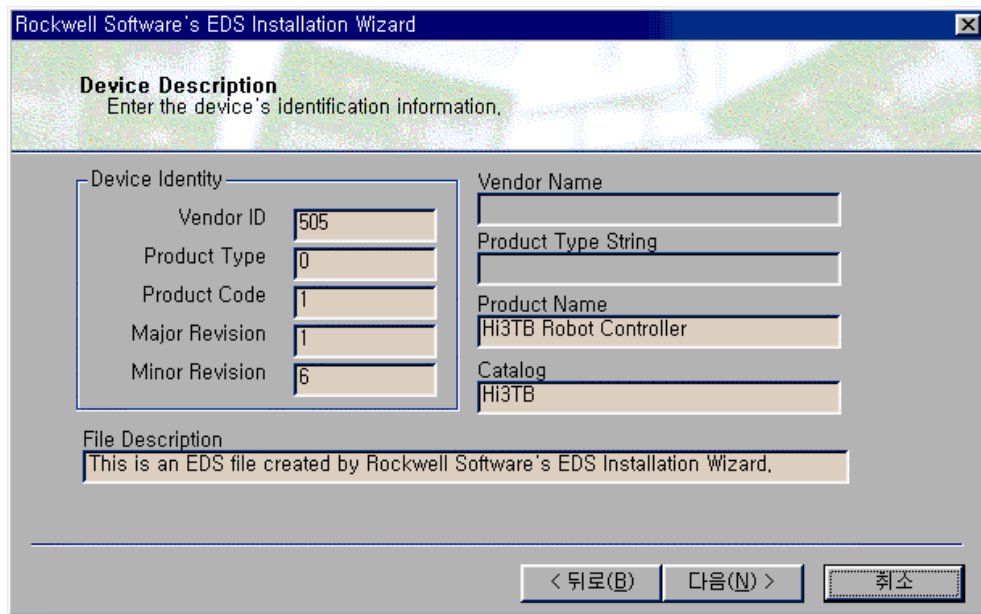

Figure 3-3. DeviceNet ID information for Fieldbus adapter of Hi Controller
As Figure 3-3, enter DeviceNet ID information for Fieldbus adapter of Hi Controller and press (N)> button.